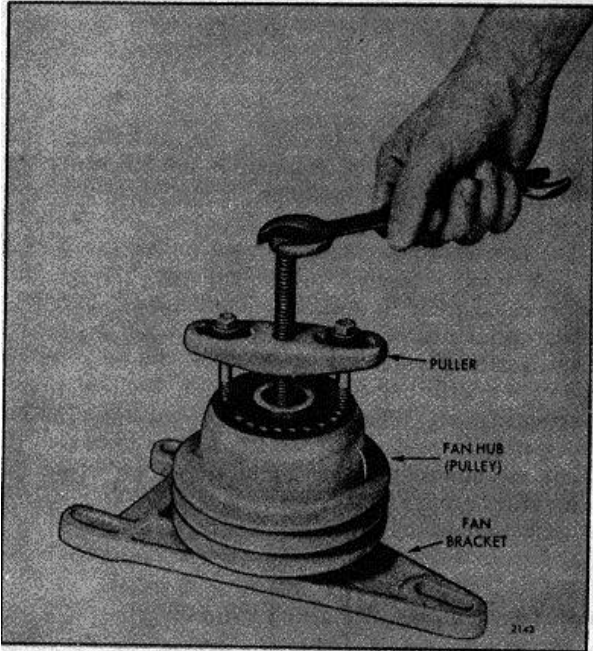

Fig. 3. Removing Fan Hub (Pulley)
2. Remove the fan hub from the shaft with a puller as shown in Fig. 3.